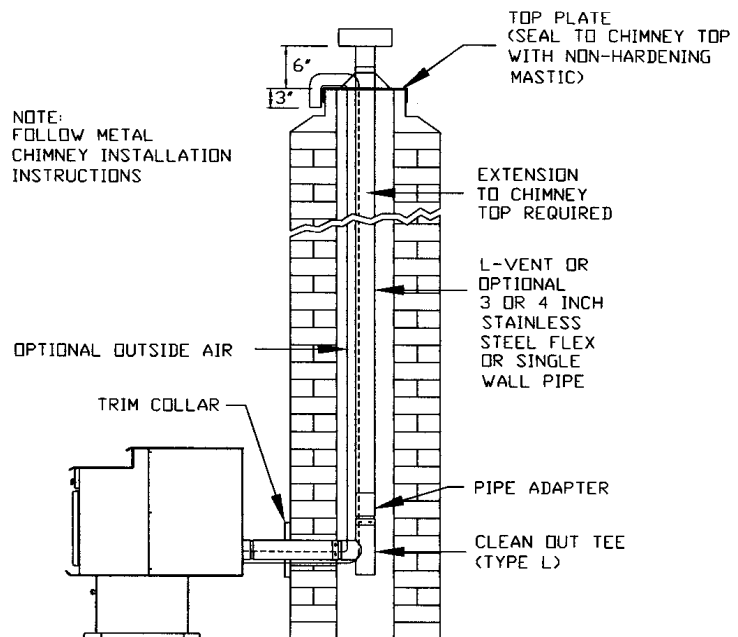

FIGURE 12
4. Install the tee on the bottom of the vertical pipe system and lower it down the chimney until the center branch of the tee is level with the center of the hole in the masonry, as shown in Figure 12.